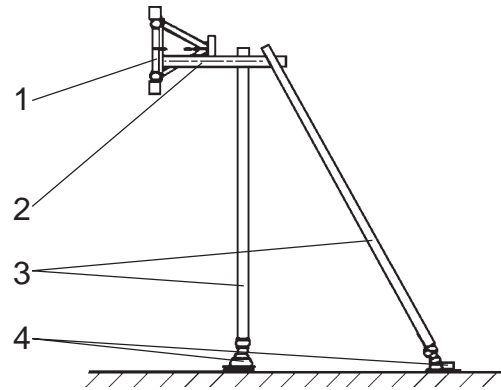

Fig. 6-09 Anchoring to the façade
4. Fasten the mast adapter (fig.6-09, 2) on the mast (fig.6-09, 1).
5. Mount the wall plates (fig. 6-09, 4) to the facade.
6. Fasten the horizontal anchor tubes (fig. 6-09, 3) between the mast adapters and wall plates.